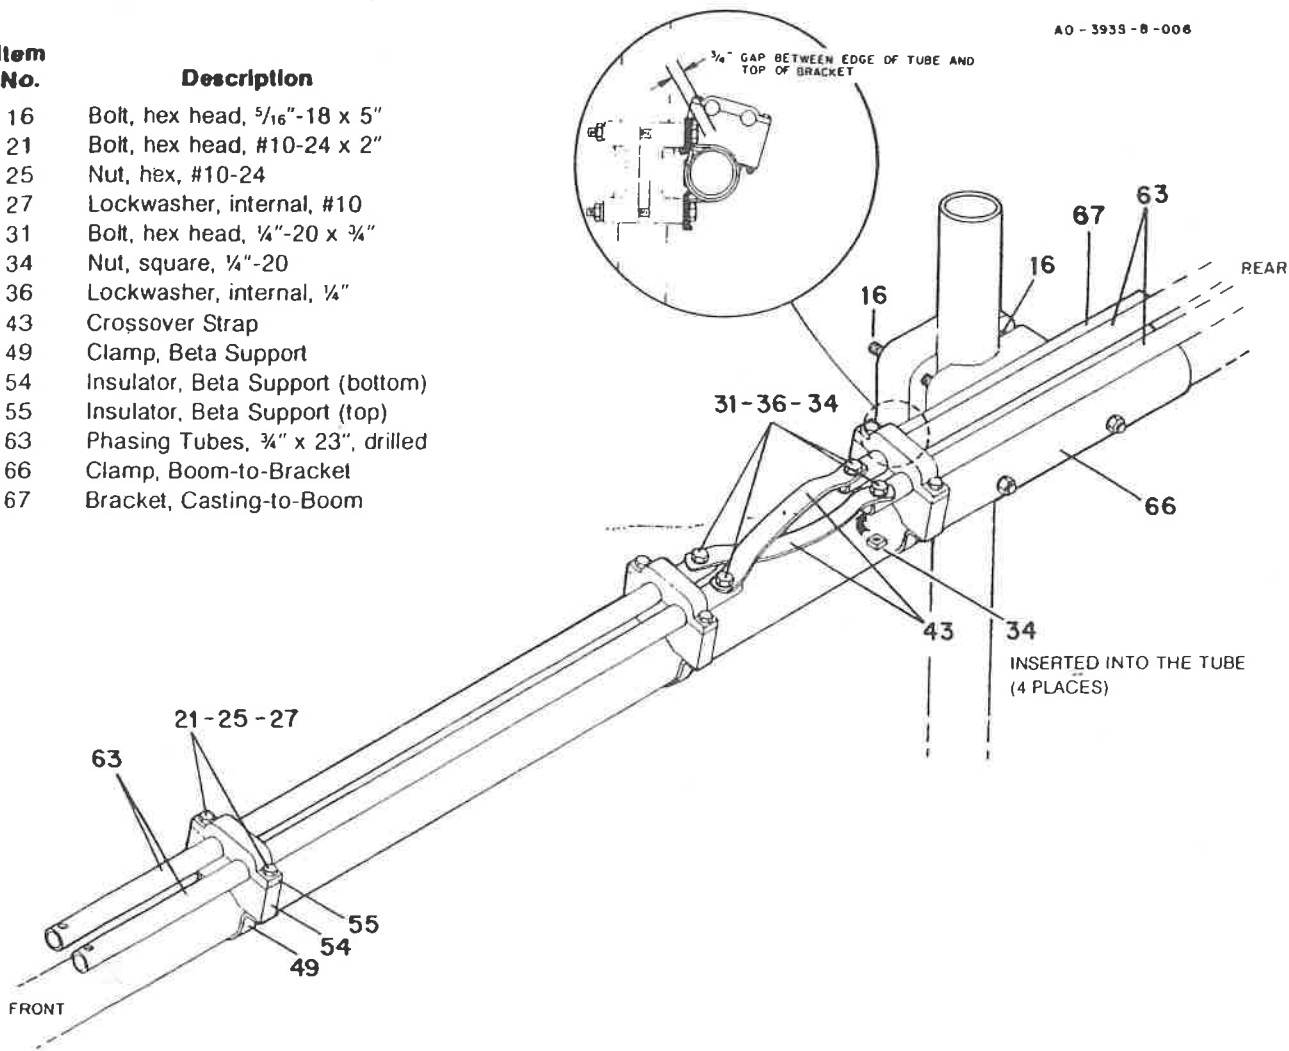

Figure 9
Select the four (4) $\frac{3}{4}$ " x 23" phasing tubes (Item No. 63), two (2) crossover straps (Item No. 43), four (4) beta support clamps (Item No. 49), four (4) beta support insulators (Item No. 54), four (4) beta top insulators (Item No. 55), and associated hardware as shown in Figure 9. Assemble the rear pair of phasing tubes to the boom as shown in Figures 9 and 10. Position the rear ends of the $\frac{3}{4}$ " x 23" tubes $3\frac{1}{2}$ inches from the center of the Rear Driven Element bracket. Position the tubes so that the drilled holes are away from the boom. Rotate this assembly on the boom so that the tubes will just clear the mast bracket. Tighten the four (4) #10-24 x 2" bolts which hold this assembly to the boom.
Select the two (2) crossover straps and install on the previously installed phasing tubes with $\frac{1}{4}$ "-20 x $\frac{3}{4}$ " bolts, lockwashers, and square nuts. DO NOT tighten completely at this time. See Figure 9.
Select the remaining two (2) phasing tubes, two (2) beta support clamps, two (2) beta support insulators, two (2) beta top insulators, and associated hardware as shown in Figure 9. Assemble the front pair of phasing tubes to the boom as shown in Figure 9. Rotate the tubes so that the drilled holes are away from the boom. Slide the assembly on the boom until the crossover straps can be attached. The ends of the phasing tubes should be about $3\frac{1}{16}$ inches apart. Attach the crossover straps to the front phasing tubes and tighten the $\frac{1}{4}$ "-20 x $\frac{3}{4}$ " bolts at this time. Loosen and rotate the two assemblies on the boom and install the top two (2) mast bracket bolts ($\frac{5}{16}$ "-18 x 5", Item No. 16) as shown in Figure 9. Rotate the two (2) assemblies back into place and position them so that the phasing tubes are $\frac{3}{4}$ of an inch from the top flange of the mast bracket. You should be able to insert your fingers between the phasing tube and mast bracket and run them along the phasing tube. Tighten the #10-24 x 2" bolts which hold the assemblies to the boom.